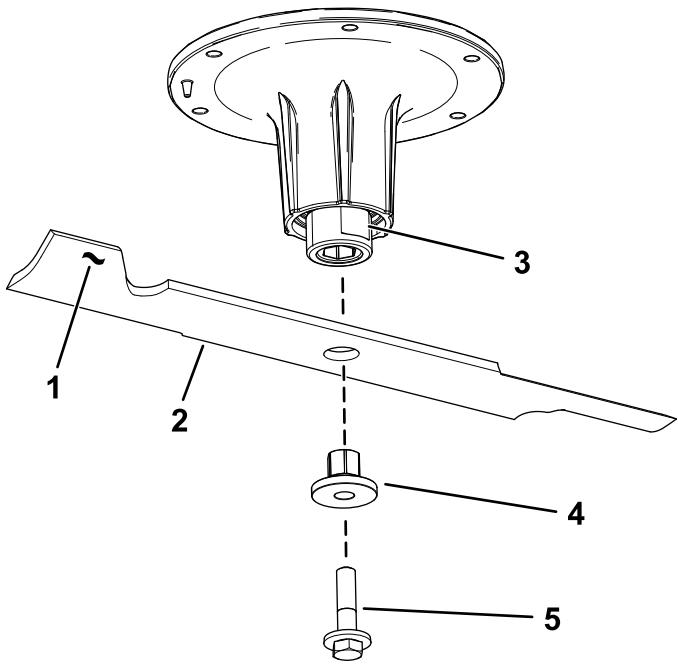

Figure 80
2. Remove the blade bolt, bushing, and blade from the spindle shaft (Figure 80).